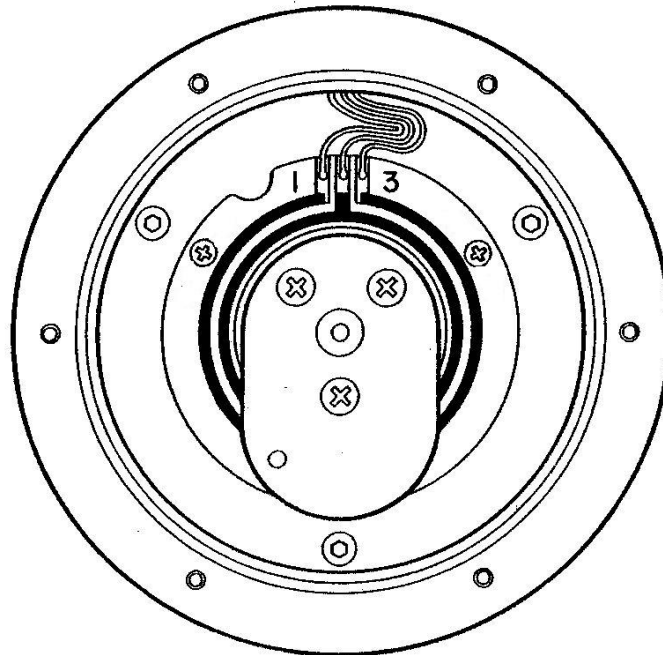

Figure 4-3 View of azimuth actuator potentiometer cavity
23. Attach the potentiometer element to plate (29) using screws (32) and Loctite 222.
24. Feed the three potentiometer wires through the drilled passage in the azimuth actuator pot cavity and out through fitting (28). Secure the plate using screws (30). Installed element should appear as shown in Figure 4-3.